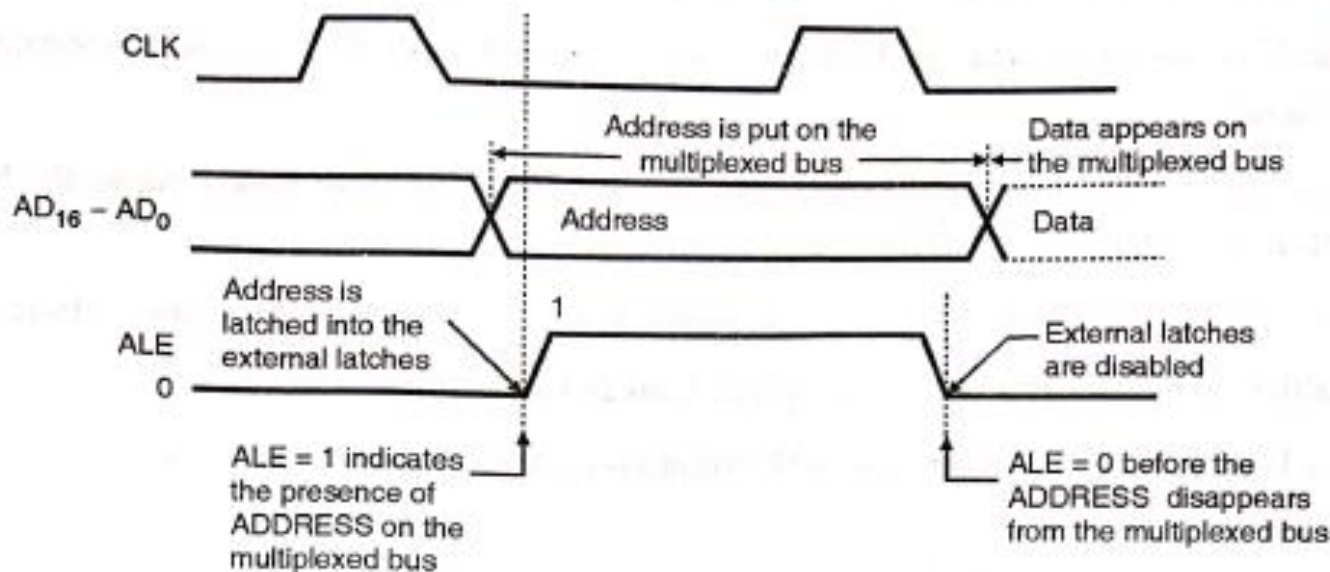

Fig. 3.3.1 : Timing diagram showing the role of ALE in the multiplexed address data bus
- The ALE signal then goes low (0), before the address disappears from the multiplexed bus as shown in Fig. 3.3.1. This will disable the external latches.